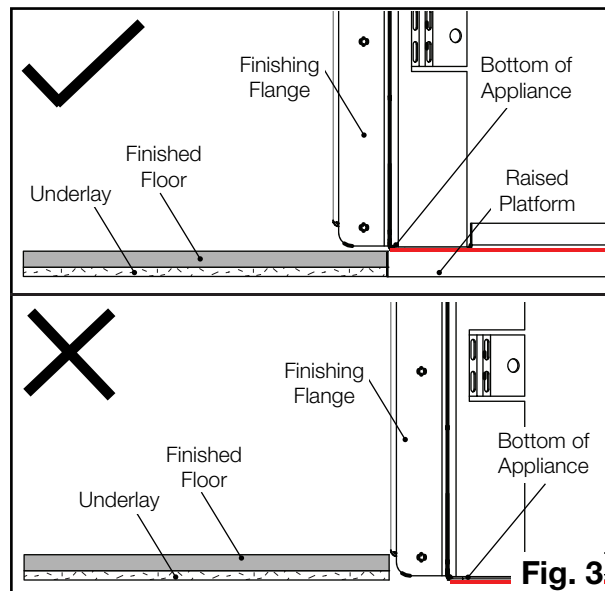

Fig. 3
- **The appliance MUST be placed on a raised platform to accommodate for the thickness of finished floor materials, which could interfere with installation of the safety barrier and/or decorative front (see page 21 in Installation Manual) (Fig. 3).**